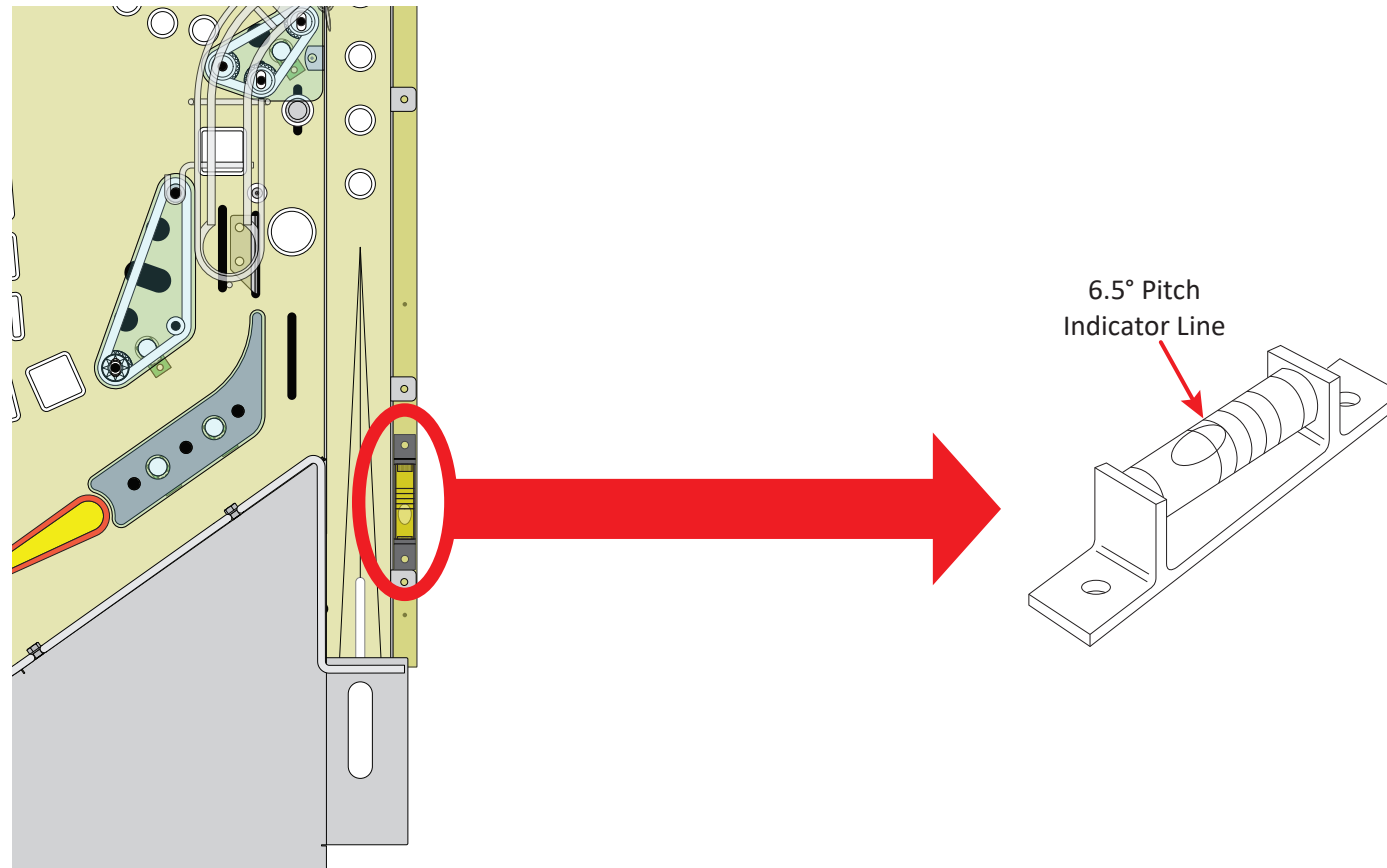

Figure A17. Playfield pitch bubble level.
19) A bubble level (figure A17) is attached to the playfield's right woodrail, next to the ball shooter lane, to indicate the optimal pitch of the playfield (back-to-front) for game-play. Adjust the levelers and tightening nuts on the game's four legs until the top of the bubble in the level is just touching the second reference line, as shown in figure A17. This will provide a playfield pitch angle of 6.5°.